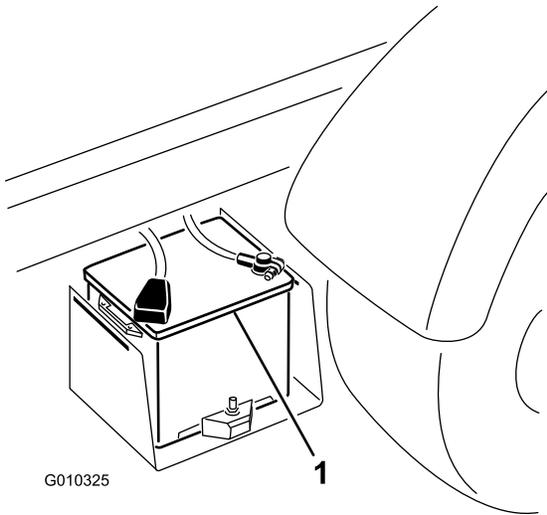

Figure 42
2. Connect a jumper cable between the positive posts of the two batteries (Figure 42). The positive post may be identified by a + sign on top of the battery cover.